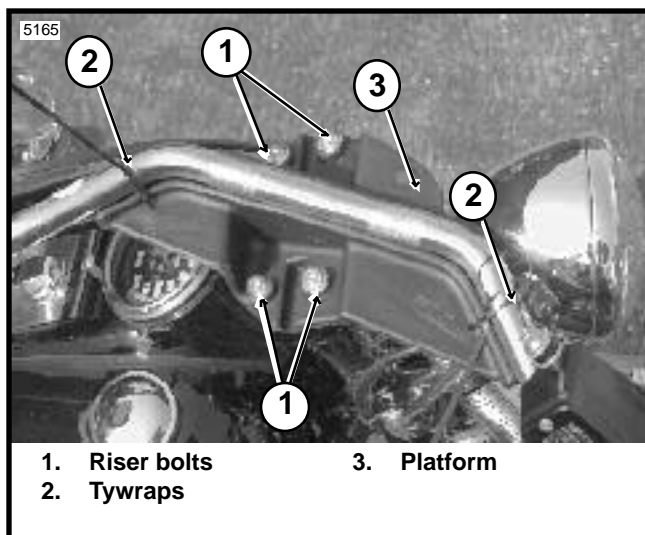
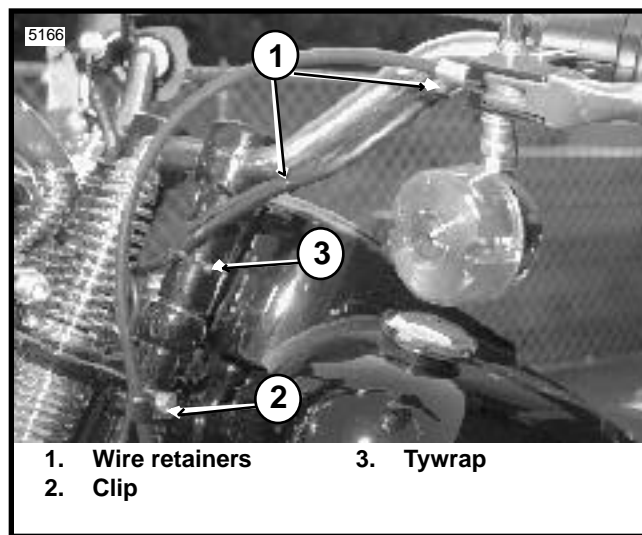

Figure 1
Figure 2
1. See Figure 1. Remove the four riser bolts (1) and washers which hold the platform (3) to the riser. Retain the four bolts, discard washers.
2. Holding the platform containing the handlebar, cut the tywraps (2).
3. Discard the platform (3) and tywraps (2).
7. See Figure 2. Push the two plastic wire retainers (1) on the left hand switch conduit into the holes in the handlebars.
9. Remove the bolt holding the upper clutch cable clip (2).
12. Tywrap (3) the left hand switch wire conduit and the turn signal wire to the handlebar riser.